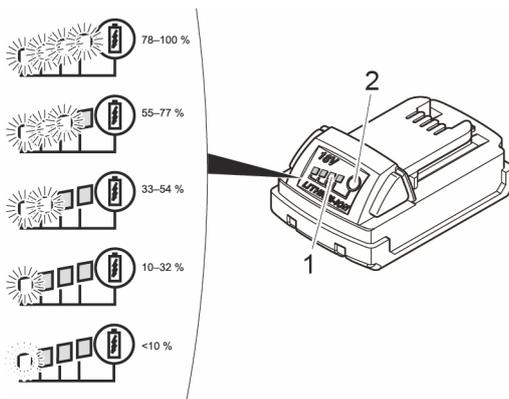

Fig. 9: Checking the battery charge level
► Press button(Fig. 9/2).
The number of illuminated LEDs (Fig. 9/1) shows the level of charge. A flashing LED indicates less than 10 % charge level.